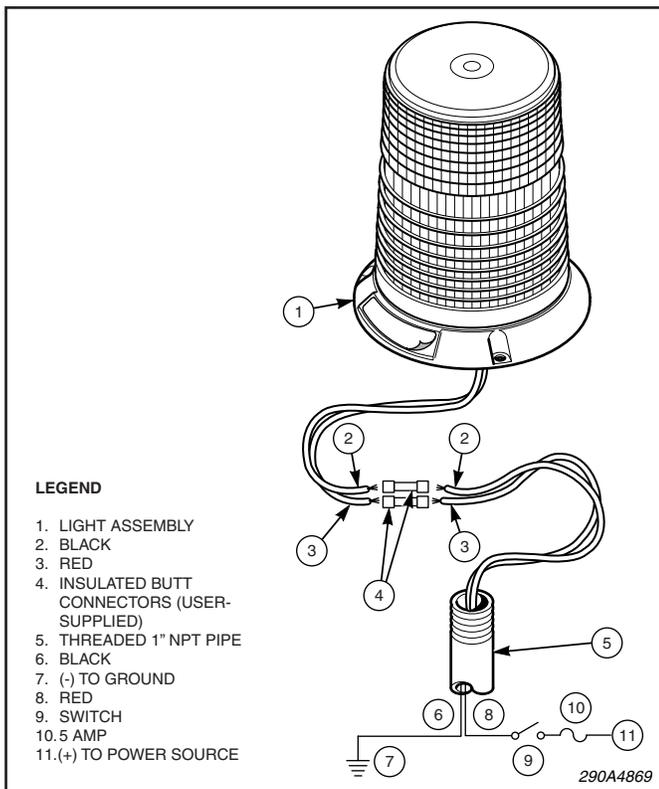

Figure 2.
2. *Pipe Mount (see figure 2).*